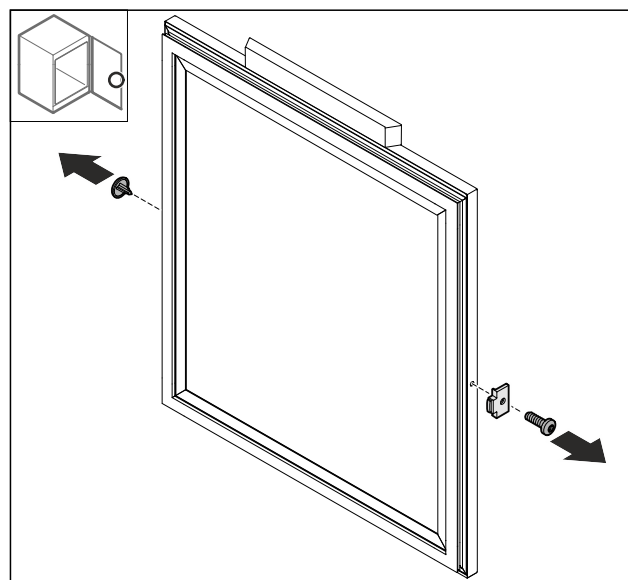

Fig. 47
- Remove the Fig. 47 (1) cover.
- Pull off the door stopper Fig. 47 (2).